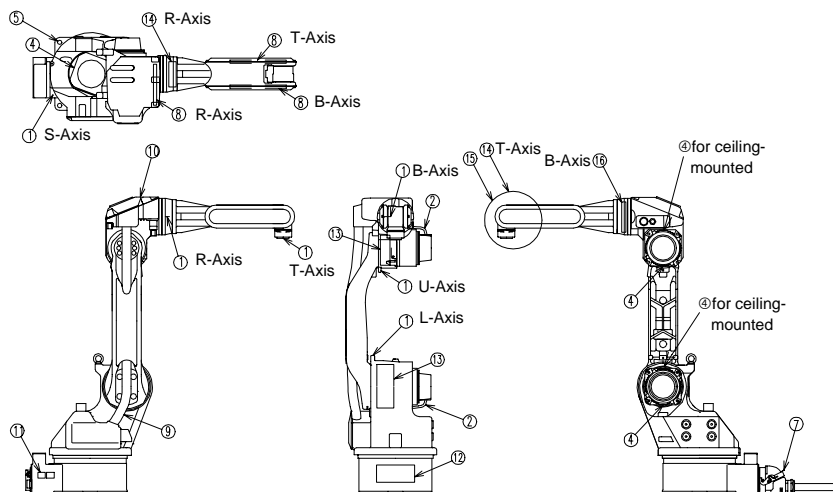

Fig. 23 Inspection Parts and Inspection Numbers
⑩ R-axis cross roller bearing			○				Grease Gun	Check for malfunction. (Replace if necessary.) Supply grease ^{*3} (6000H cycle). See Par. " 9.2.7 Grease Replenishment for T-Axis Gear ", " 9.2.8 Grease Replenishment for R-Axis Cross Roller Bearing "		○	○
⑪ Overhaul						○					○
***4** Inspection No. correspond to the numbers in " Fig. 23 Inspection Parts and Inspection Numbers ".